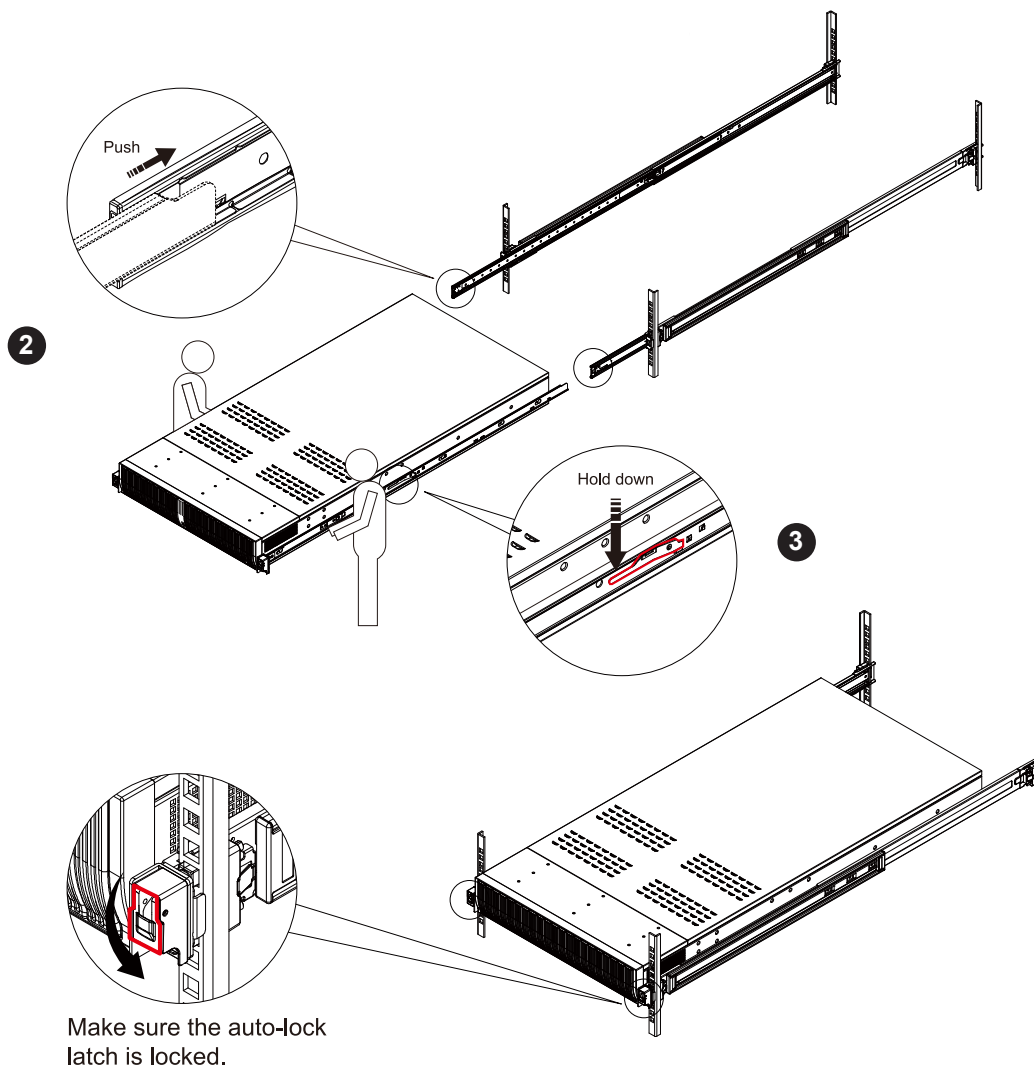

Figure 2-7. Installing the System into a Rack
1. Fully extend the middle rails as illustrated in Figure 2-7.